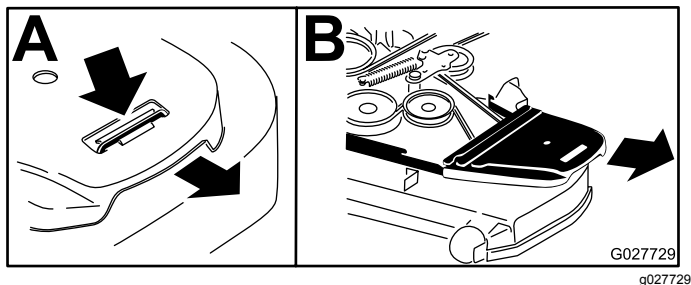

Figure 86
4. Remove the belt covers (Figure 86).